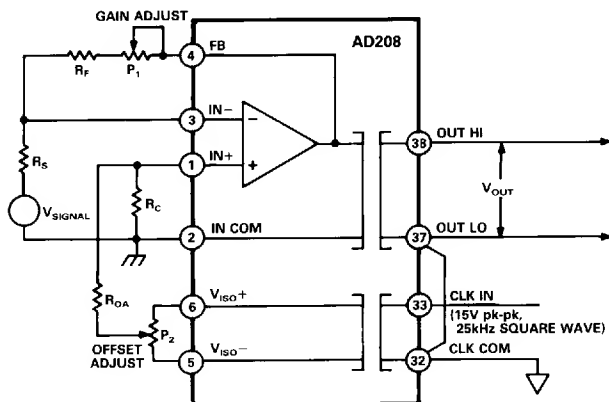

Figure 32. Input Adjustments for the Inverting Mode of Operation
**Offset Adjustment.** Figure 32 shows the suggested input adjustment connections when the isolator's input amplifier is configured for the inverting mode of operation. Here the offset adjustment potentiometer  $P_2$  nulls the voltage at the summing node. This method may be preferred over current injection since it is less affected by any subsequent gain adjustments. A 100 k $\Omega$   $P_2$ , 50 k $\Omega$   $R_{OA}$  and a 100  $\Omega$   $R_C$  should provide an offset adjustment range (Referred to Input) of about  $\pm 15$  mV.
**Gain Adjustment.** Figure 32 also shows the suggested gain adjustment circuit. In this circuit, the gain adjustment is made in the feedback loop using potentiometer  $P_1$ . The adjustments will be effective for all gains in the 1 to 1,000 V/V range.